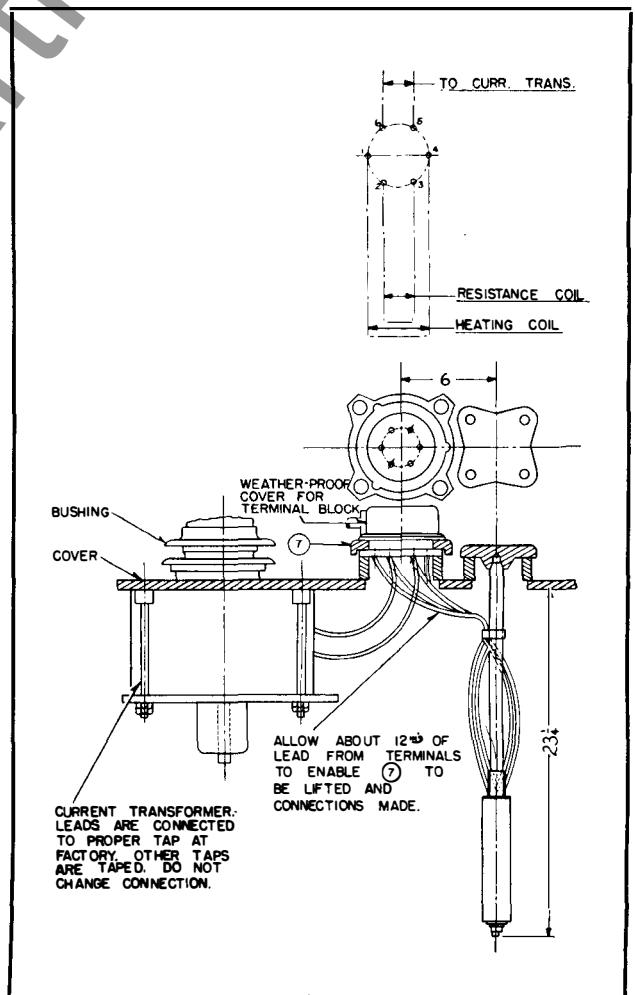

FIG. 4. Typical Installation with Bushing Current Transformer.
The external terminal box will always be in place, and will be covered by a weatherproof conduit box. It may be a box as shown in Fig. 4 or a large box to take care of a number of leads including some not for the hot spot indicator. The heating coil and resistance element form an integral unit which is shipped in place whenever possible. If this cannot be done, it is shipped in a separate package marked "Details".
2. Connect the two leads from the heating coil to the two studs marked 1 and 4 on the under side of the terminal block. See Fig. 4.